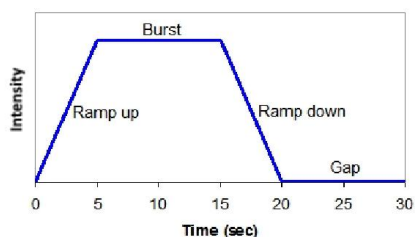

Figure G.2 One cycle of stimulation, composed of four periods: ramp up, burst, ramp down, and gap.
**Burst** – the portion of a stimulation cycle during which stimulus pulses are delivered at the maximum programmed amplitude and pulse duration (Figure G.2).
**Cycle** – the period of time for the ramp up, burst, ramp down, and gap periods of stimulation to each occur once (Figure G.2).
**Gap** – the portion of a stimulation cycle during which stimulus pulses are not delivered (Figure G.2). (Not applicable when duty cycle is set to 100%; i.e., when the pulse train continues at set value until stimulation is stopped.)
**Ramp Down** – the period of time during the stimulus cycle when stimulus pulse Amplitude is decreasing from its maximum value to zero (Figure G.2). (Not applicable when duty cycle is 100%; i.e., when the pulse train continues at set value until stimulation is stopped.)
**Ramp Up** – the period of time during the stimulus cycle when is increasing from zero to its maximum value (Figure G.2). (Not applicable when duty cycle is 100%; i.e., when the pulse train continues at set value until stimulation is stopped.)